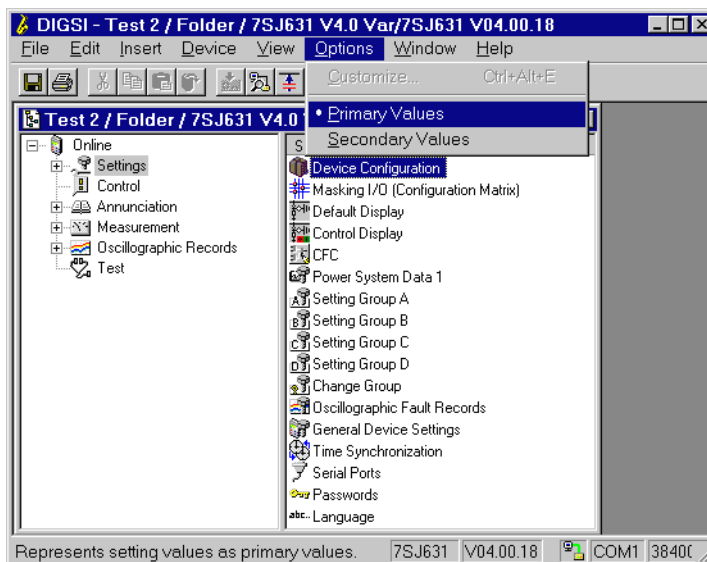

Figure 6-7 Selection of Primary or Secondary Value Entry — Example
- Click on **Options** in the menu bar, as shown in Figure 6-7.